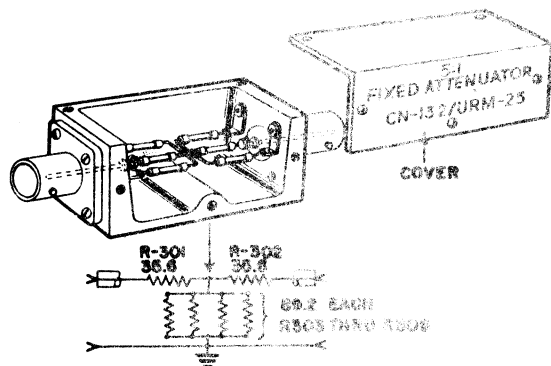

Figure 2-15. (5:1) Fixed Attenuator CN-132/URM-25 with Schematic Diagram Shown
(See figure 2-15)
b. The schematic diagram and outline drawing of the 5:1 fixed attenuator is shown in figure 2-15. It is designed to be used when the input impedance of the receiver under test is 53.5 ohms and consists of four resistors (R-303, R-304, R-305, R-306) connected in parallel to give an equivalent resistance of 22.3 ohms. These parallel resistors are then connected with two 35.6 ohms resistors to form a "T" network. It can readily be calculated that the output terminal voltage of this attenuator unit will be one fifth its input voltage when the CN-132/URM-25 is properly terminated in 53.5 ohms. It therefore follows that the voltage output from the fixed attenuator will be one fifth the voltage indicated by M-101.